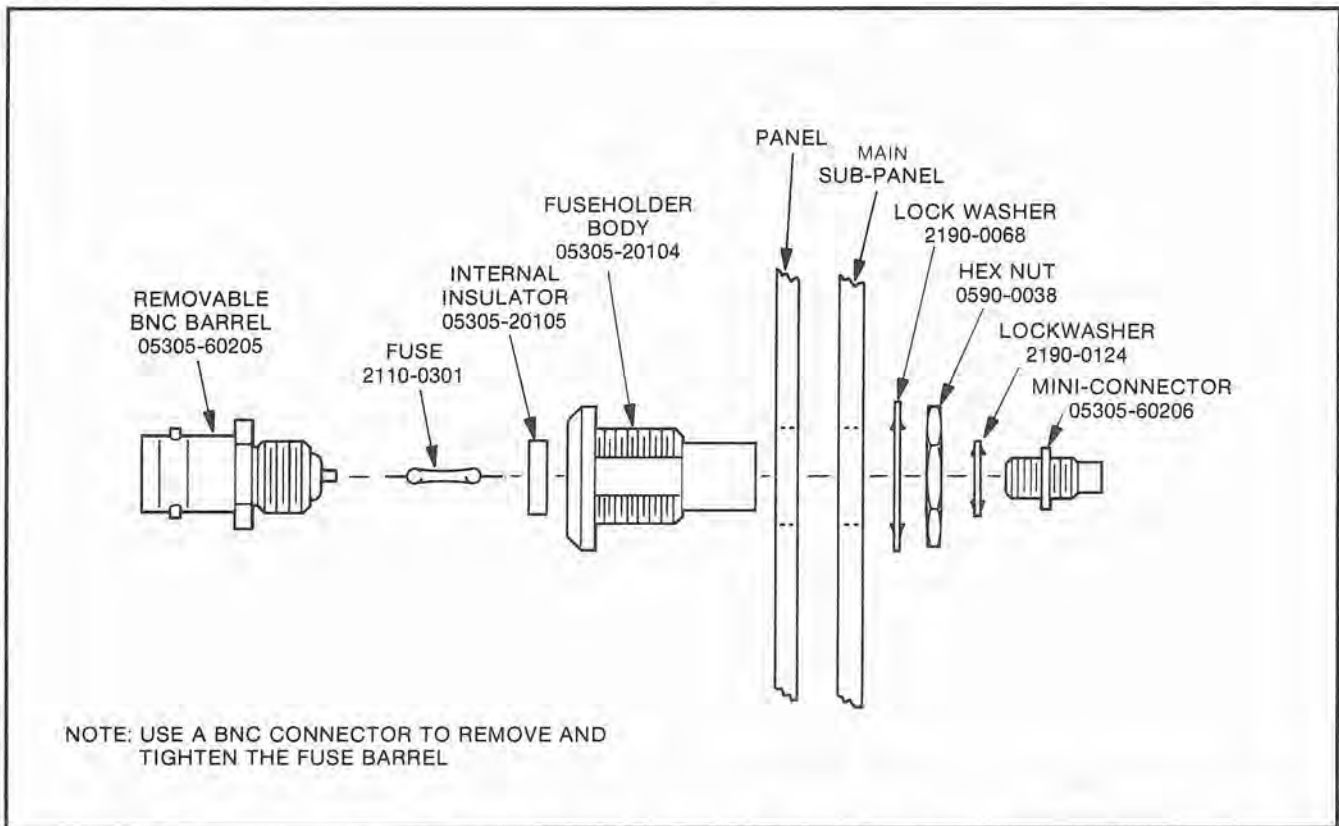

Figure 2-4. Details of Input Connector J1 and fuse Mounting
- d. Install Special Input BNC (provided) through the lower hole of the Channel C front panel (P/N 05335-00008) and the corresponding hole in the mainframe, and secure the special BNC and panel with hex nut, P/N 0590-0038, to the frame as illustrated in Figure 2-4.
2-34. When Option 030 C Channel is installed, the operator may be required to replace the input BNC fuse. This is a 1/8A fuse (HP Part No. 2110-0301) which is located within the INPUT C BNC connector (see Figure 2-4 for details). To replace the fuse, disconnect the power cord, unscrew the special BNC barrel and, with needle-nose pliers, remove and replace the fuse. Reinstall the BNC barrel, and tighten using a BNC cable connector. Be careful not to over-tighten.